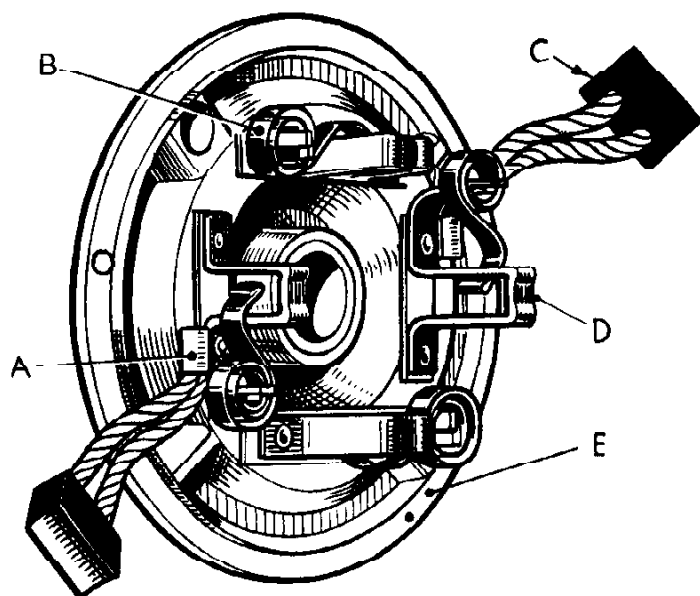

Figure O25.
3. REMOVAL BRUSH GEAR Fig. O25.